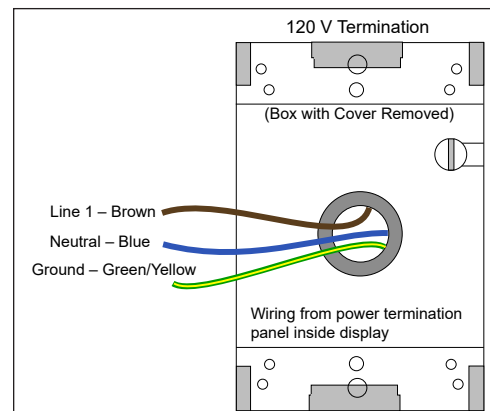
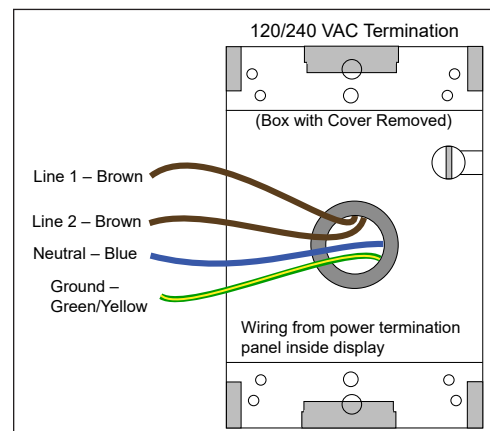

Figure 4: 120 V J-box Termination
Figure 5: 120/240 V J-box Termination
2. Inside the J-box, connect the power wires to the wires coming from the display interior using wire nuts. Refer to **Figure 4** for 120 VAC and **Figure 5** for 120/240 VAC.